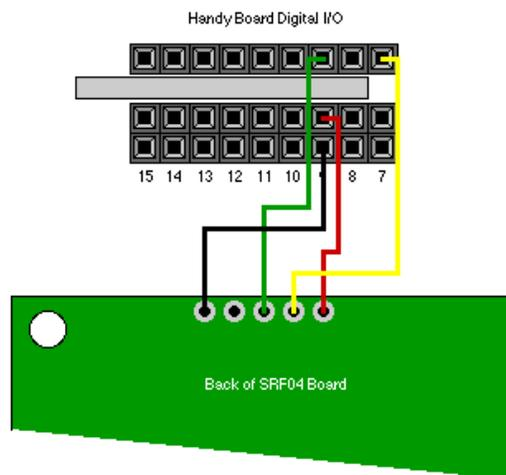

Figure 2. Interfacing the SRF04 with the Handy Board.
1. Interface the sonar sensor to the Handy Board as shown by Figure 2 below. Turn the Handy Board on and connect it to the computer. Start Interactive C (IC), noticing that SONAR.C is loaded with IC. The function `int sonar()` sends a ping and measures the time to return. An integer is returned, which is the time of flight in internal clock ticks. This is the number of CPU clock cycles (or ticks) that pass while the signal travels to the object and then returns.